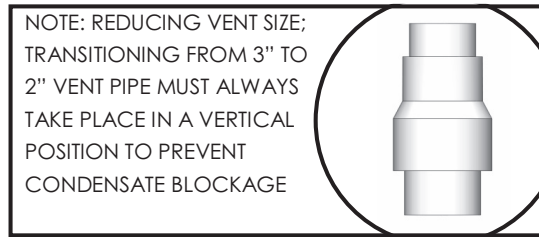

Figure 8 – Transitioning from 3" to 2" Vent Pipe
- For 2" diameter installations, install a reducing coupling in a vertical section of pipe ABOVE the pipe clamp installed on the Boiler. See Figure 8.
4. For 2" installations, install a reducing coupling in a vertical section of pipe. See Figure 8.